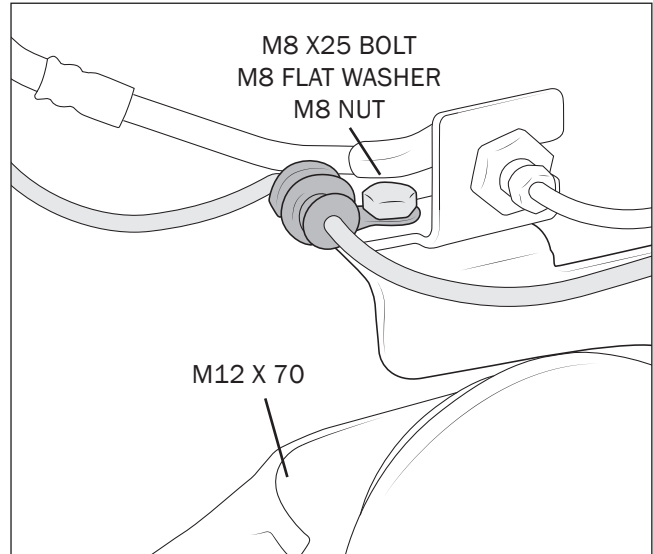

Figure 29
13. Attach the factory soft brake line bracket to the AEV brake line bracket. Use the supplied P-clip to secure the wheel speed sensor wire to the brackets (fig. 29).